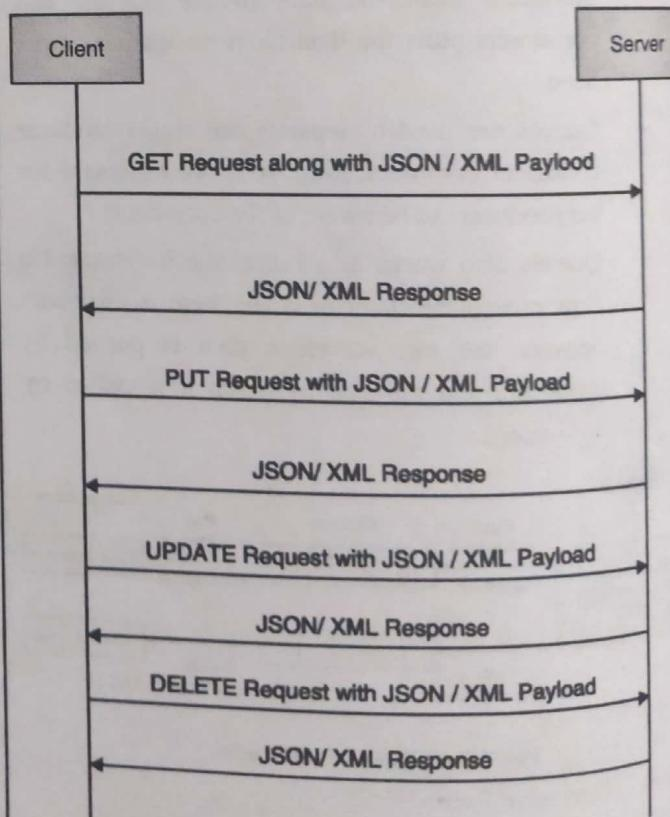
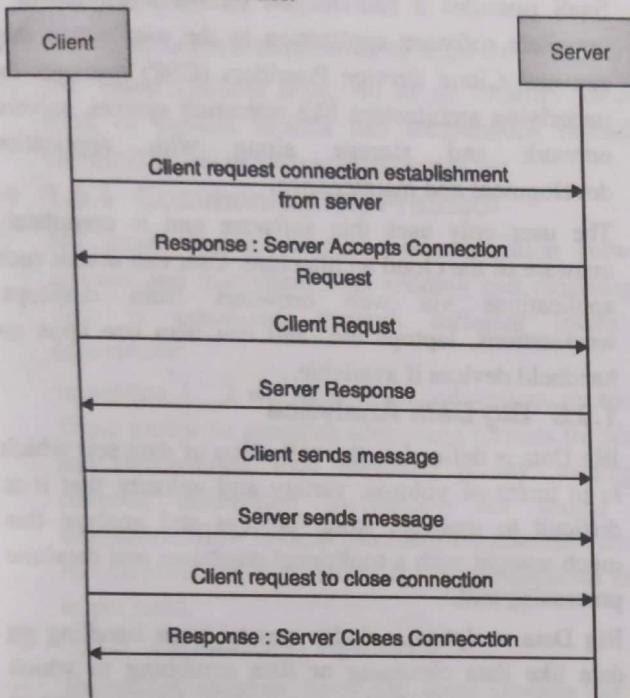

Fig. 1.8.6 : Client Server Communication Using REST
Fig. 1.8.7 : Client Server Communication Using WebSocket
- Fig. 1.8.6 shows client server communication using REST API and Fig. 1.8.7 shows request - response model using REST.
- As shown in Fig. 1.8.6, URIs are used to represent resources in a RESTful web service.